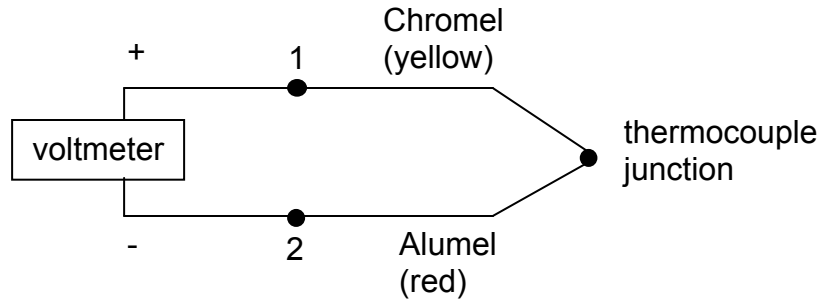
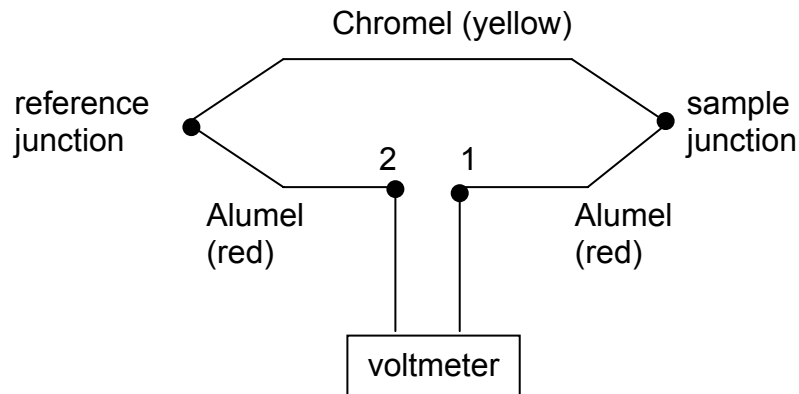

Figure 1. Measurement of a thermocouple voltage with one junction.
Figure 2. Measurement of thermocouple voltage two junctions.
One can see the effect of temperature on a thermocouple junction simply by measuring the voltage across the junction, as shown in Figure 1. Note that in this
Since both $V_{reference}$ and V_{sample} depend on temperature, $V_{measured}$ will depend on the difference in temperature between the reference and sample. The reference junctions (1 and 2) in Figure 1 are typically at room temperature. If the reference junctions (1 and 2) are at the same temperature as the sample (the thermocouple junction), then $V_{alumel-chromel}$ and $V_{chromel-alumel}$ will be equal in magnitude and opposite in sign and the measured voltage will be zero.
The circuit in Figure 1 is a convenient arrangement for a room temperature reference, but it does not work well for the more commonly used ice-point reference. (It's not very convenient to keep the probe junctions in ice.) Figure 2 shows a circuit that
- Using both a thermometer and the thermocouple (as shown in Figure 2), measure the temperature of the following: